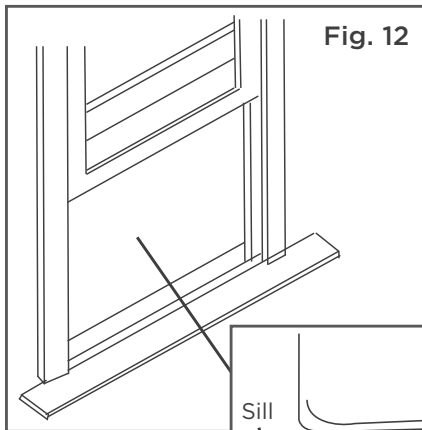

Fig. 12
1. Open window and mark center of window sill as shown (Fig. 12).